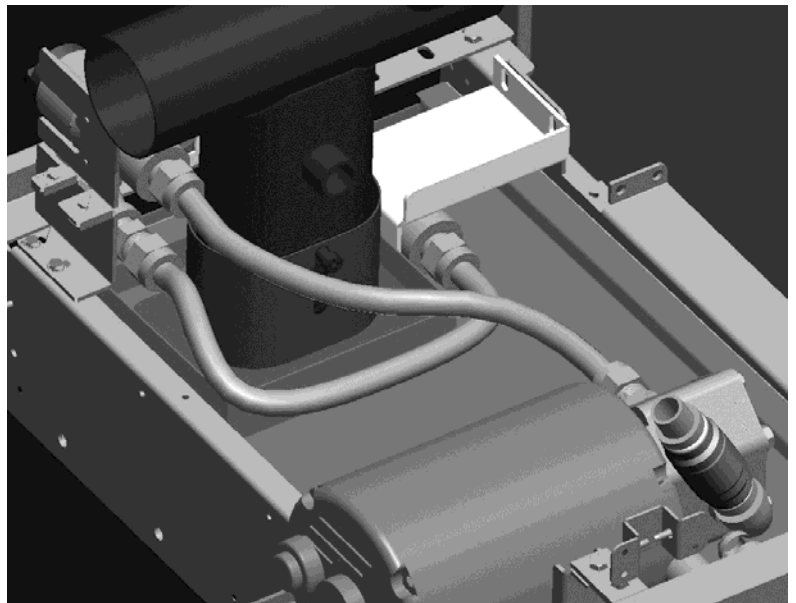

Figure 5: Route the flex lines as shown from the pan pickup to the pre-filter and from the pre-filter to the pump.
6. Route flex line from filter pan pickup to bottom of pre-filter. **See Figure 5.**
7. Route flex line from top of pre-filter to pump. **See Figure 5.**